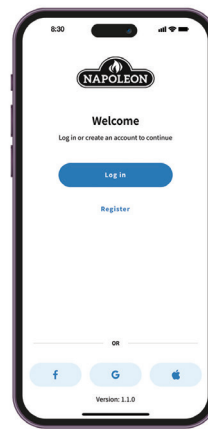

Fig. 1
1. Register an account with the **Napoleon Home App** OR sign-in using your Facebook, Google, or Apple account information. (Fig. 1)